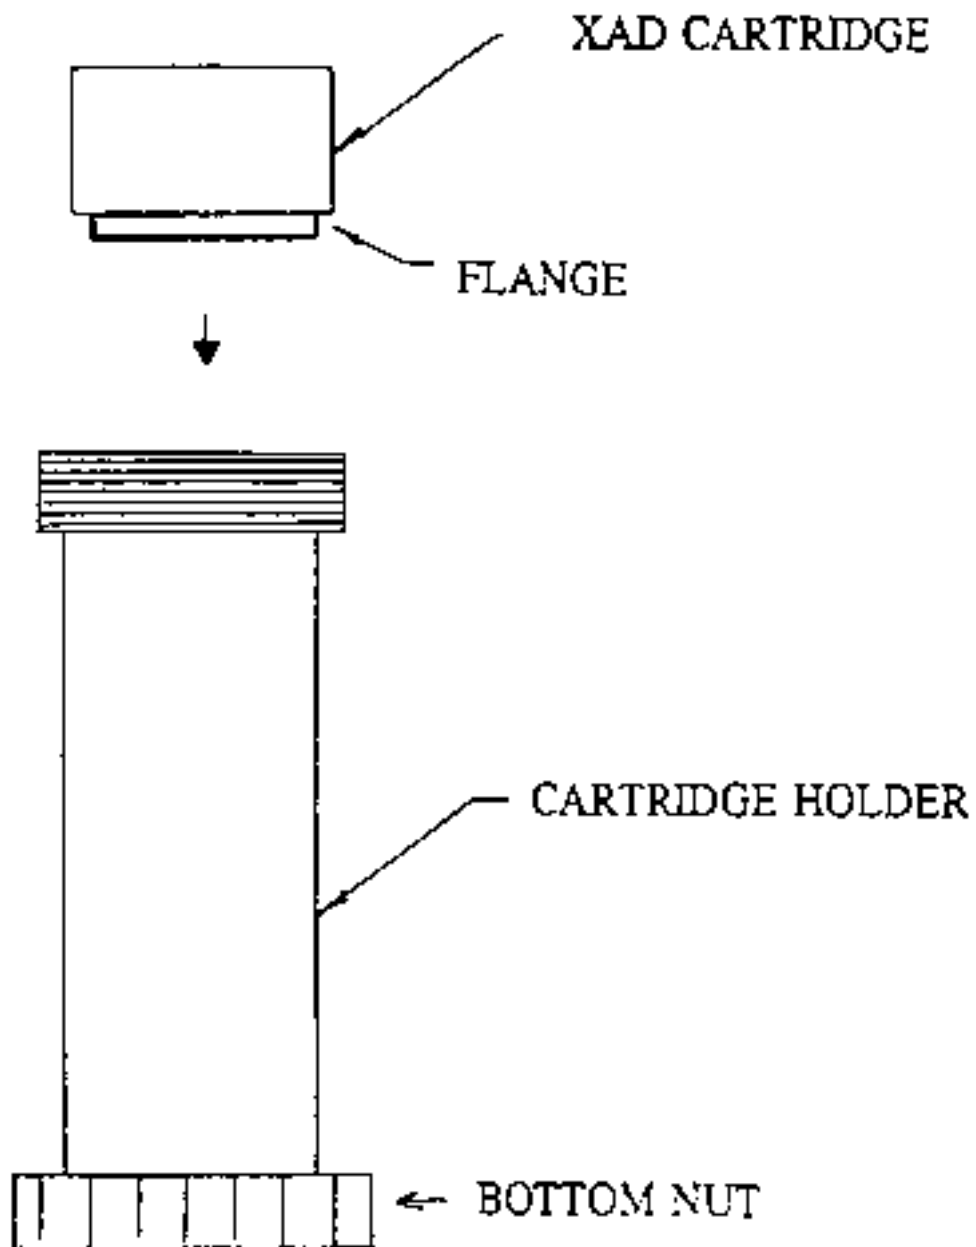

Figure 3. XAD-2 Cartridge and Cartridge Holder
Refer to Figure 3.
8.5.2 XAD-2 Cartridge Installation: Refer to Figure 3.